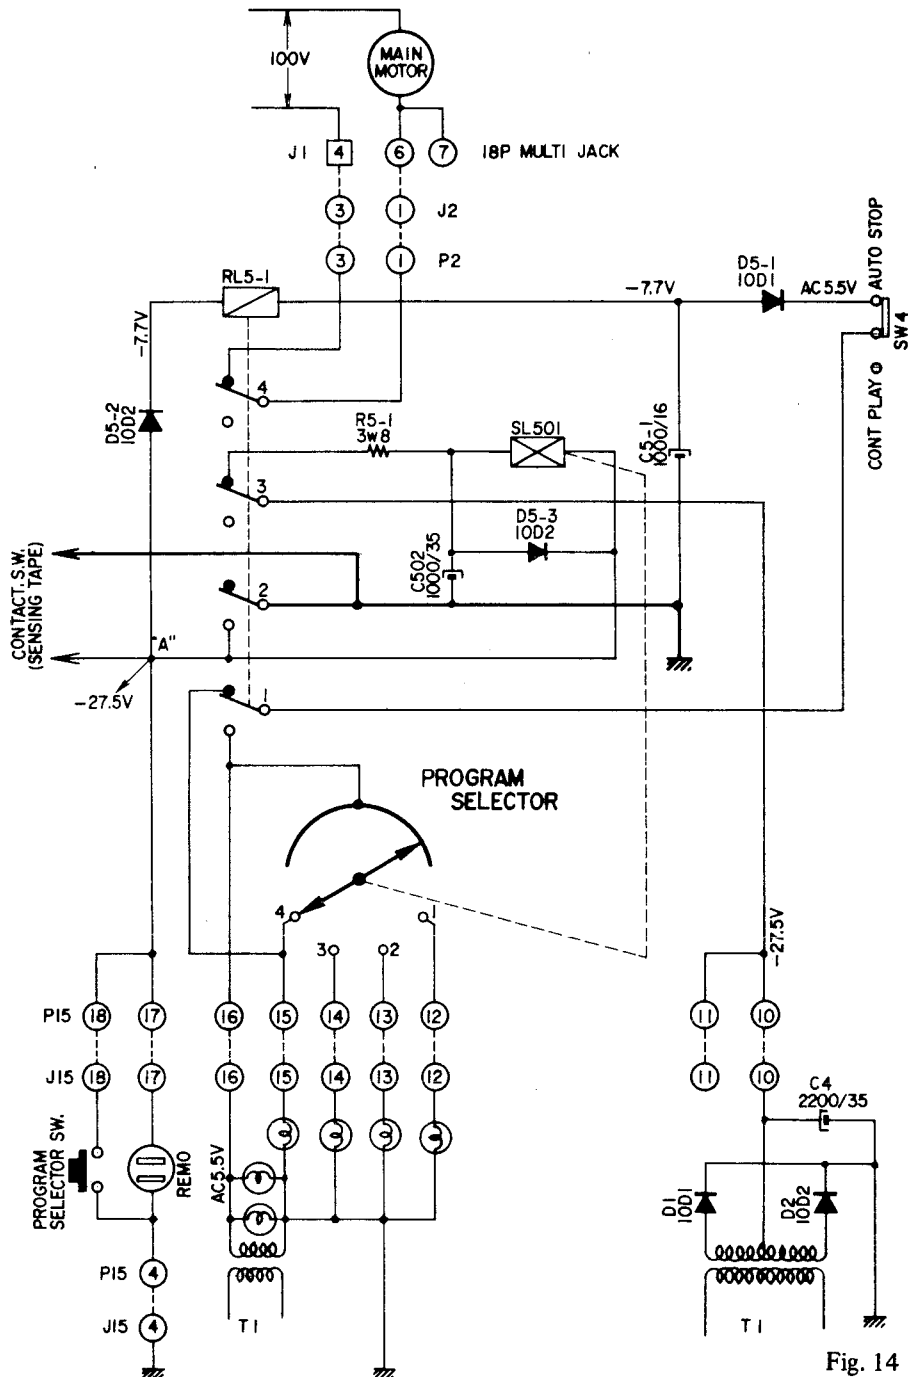

Fig. 14
## 8. CARTRIDGE AUTOMATIC STOP OPERATING PRINCIPLES (See Fig. 14)
When Cartridge Auto Stop/Cont. Play Switch (SW-4) is set to "Auto Stop", when the Program Selector comes to Program "4" position, the voltage passes through Program Selector and Relay (RL5-1) (1) and voltage is applied to D5-1 and RL5-1 as shown in Fig. 14, point "A" is grounded by the Program Selector or Sensing Tape, RL5-1 is activated, and the motor stops. At the same time, Solenoid Coil SL5-1 is also activated and Program Selector is returned to Program 1 position. Relay RL-1 is held by the voltage supply from P15 (16) Multi-Jack which passes RL-1.